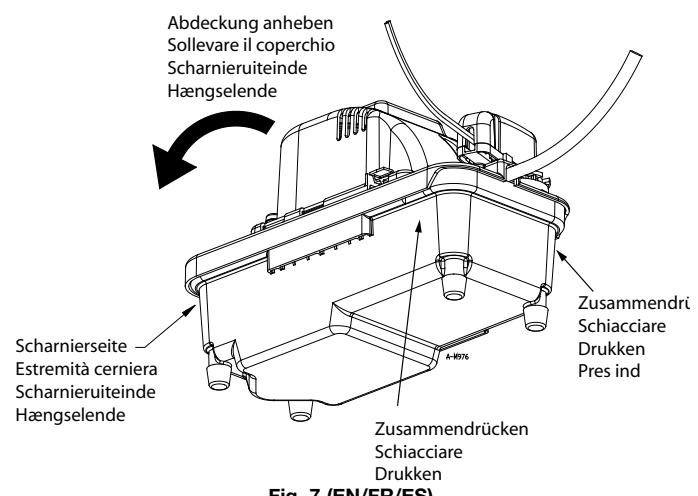

Fig. 7 (EN/FR/ES)
- To access the tank, float, or intake screen for cleaning, lightly squeeze the tank walls to release the latch (Fig. 7), then grab and raise the motor cover. (The motor cover hinges on the opposite end of the tank.)